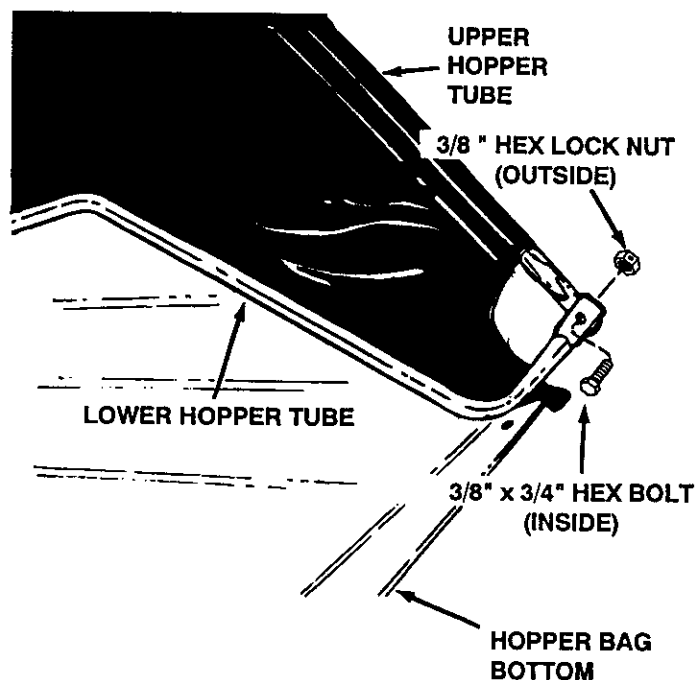

FIGURE 11
- Place the assembled lower hopper tubes into the bottom of the hopper bag as shown in figure 11.
- Assemble the ends of the upper and lower hopper tubes together using two 3/8" x 3/4" hex bolts (on the inside) and two 3/8" hex lock nuts (on the outside). **Tighten to allow bag to pivot freely.** See figure 11.